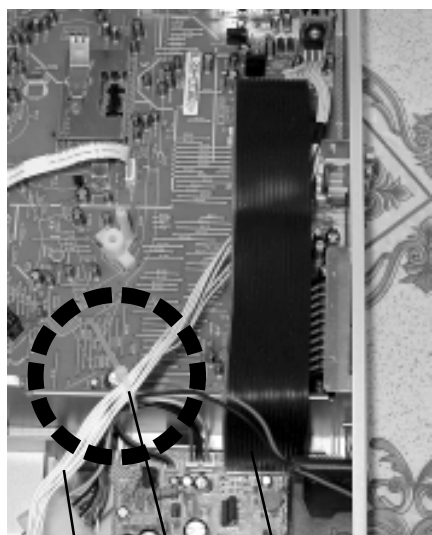

Fig. 2
3. Pass the CD7304 through under the CD502 them plug in the connector like the Fig. 2. (Because, this prevent from the contact with the VCR Deck.)